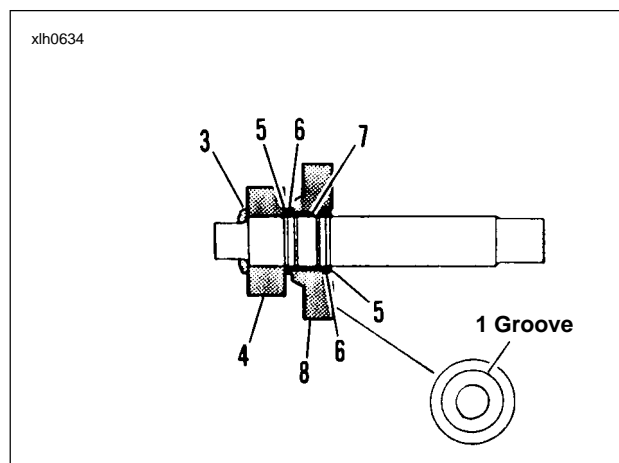

Figure 6-44.
5. See Figure 6-44. Install retaining ring (5) on countershaft. Position retaining ring in the second ring groove from the end with internal threads. Install thrust washer (6) next to retaining ring. Install split bearing (7) in seat next to washer (6).
6. Locate countershaft first gear (8). Gear (8) has a radial groove at one side of the gear. Install gear (8) over split bearing (7) with radial groove facing access door.
7. Install thrust washer (6) and retaining ring (5) next to gear (8).
8. Locate countershaft 4th gear (4). This flat, shoulderless gear is splined and has a single radial groove at one side. Position gear next to retaining ring (5). Place beveled washer (3) over end of shaft with beveled side away from gear (4).